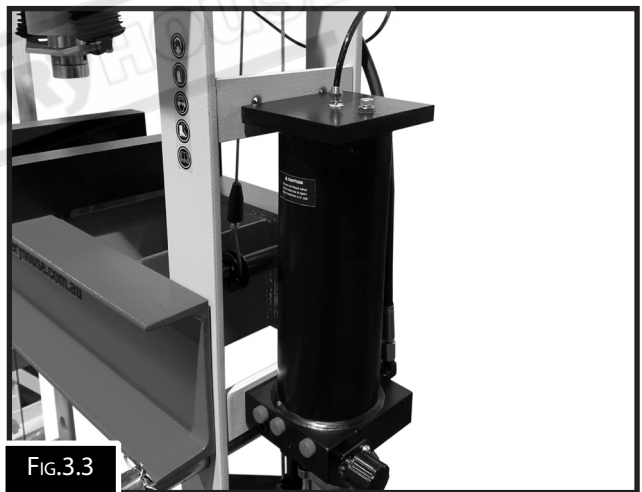

FIG.3.3
1. Attach the hydraulic/air pump to the two brackets on the right hand side of the frame using the bolts and spring washers supplied. Ensure that the hydraulic air pump is securely installed. (Fig.3.3)